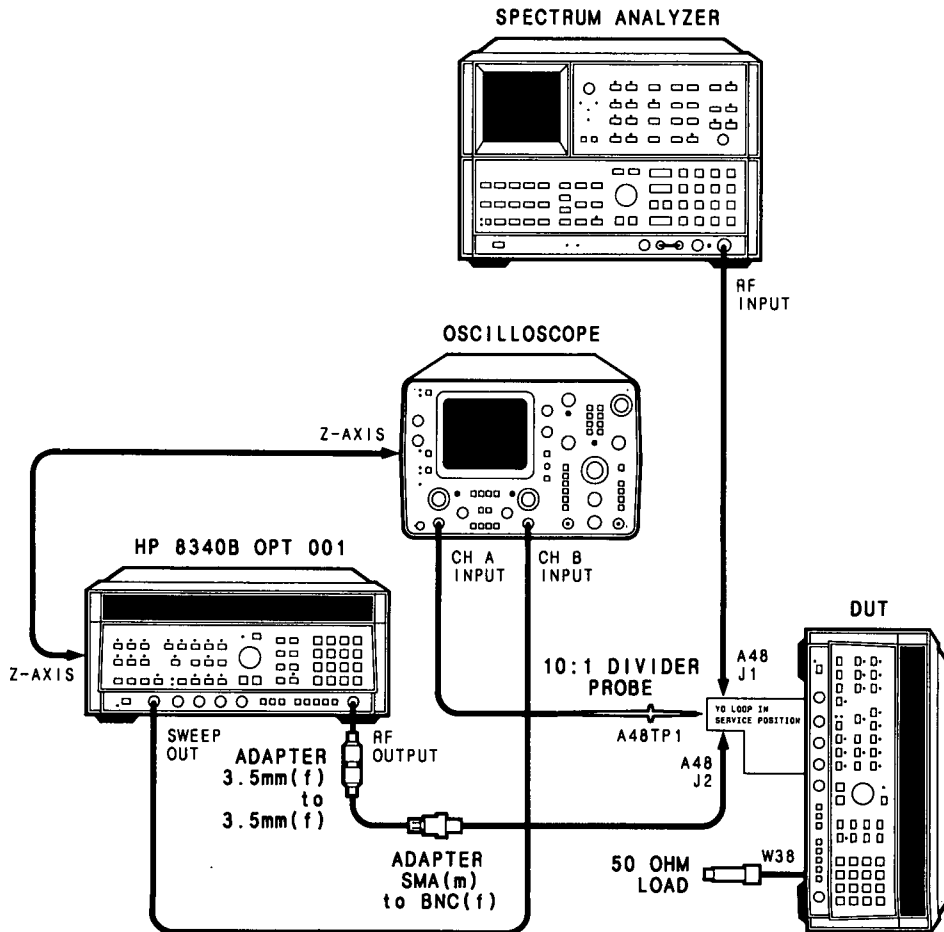

Figure 5-18. YO Loop Adjustment Setup
1. Place the DUT in the test position shown in Figure 5-18 and remove the top and bottom covers. Disconnect the rigid cable (W3) going into the A45 directional coupler RF Output through a hole in the mother board (top of the DUT). Put the YO Loop section in the service position. Disconnect all the cables that connect to A48 and A49 PC boards. Remove the A48 YO loop sampler assembly cover. Connect a 50 Ohm load to W38 at the end that connects to A49J2.
2. Connect the test equipment as shown in Figure 5-18 (do not connect the spectrum analyzer yet). Set the LINE switch to ON and allow 1/2 hour warmup.